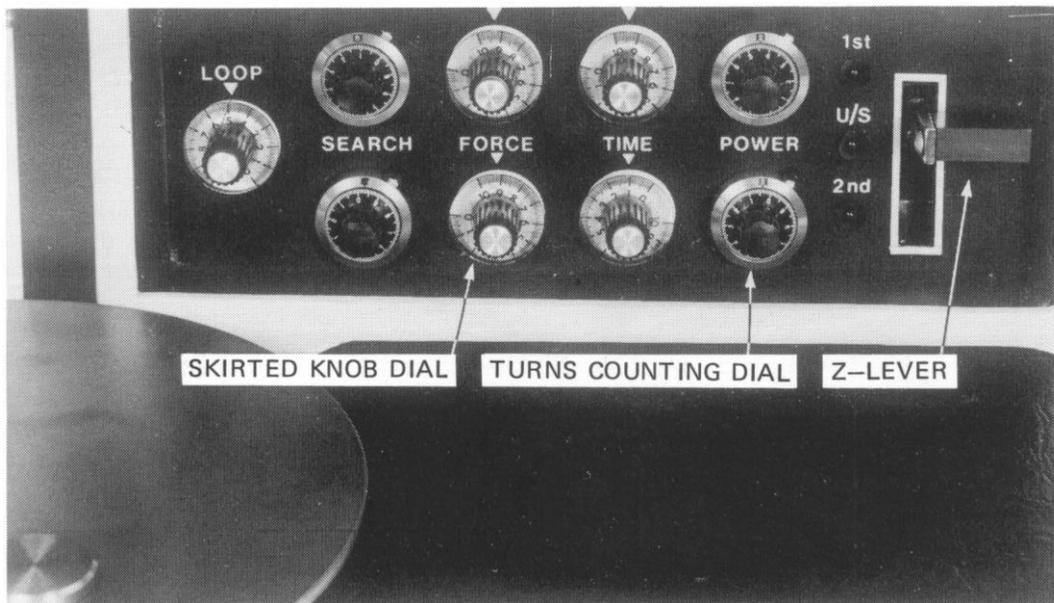

FIG. 4-2 RIGHT CONTROL PANEL
The actuator had 4 force levels: Constant force, Tracking force, 1st Bond force and 2nd Bond force – all applied at the appropriate timing in the bonding cycle (Fig 7-1). The 1st Bond (F1) and 2nd Bond (F2) forces are applied while the capillary is resting on the bond. They are selected by setting the FORCE dials (Fig 4-2).
- 3.3.6.1 Z-LEVER in the right control panel (Fig 4-2) pivots on a bearing fastened to the Bonder base. When the Z-LEVER is lowered, it transmits motion through a vertical LEVER, a ball joint and a PUSH ROD, driving the core through the Z-LVDT.
4.1.2 RIGHT PANEL (Fig 4-2) houses bonding-parameter regulation (setting) dials, indicators for “1st” and “2nd” bonding operations, and the Z-lever for manual Z bonding. The bottom row of dials including LOOP, controls the 2nd bond parameters.